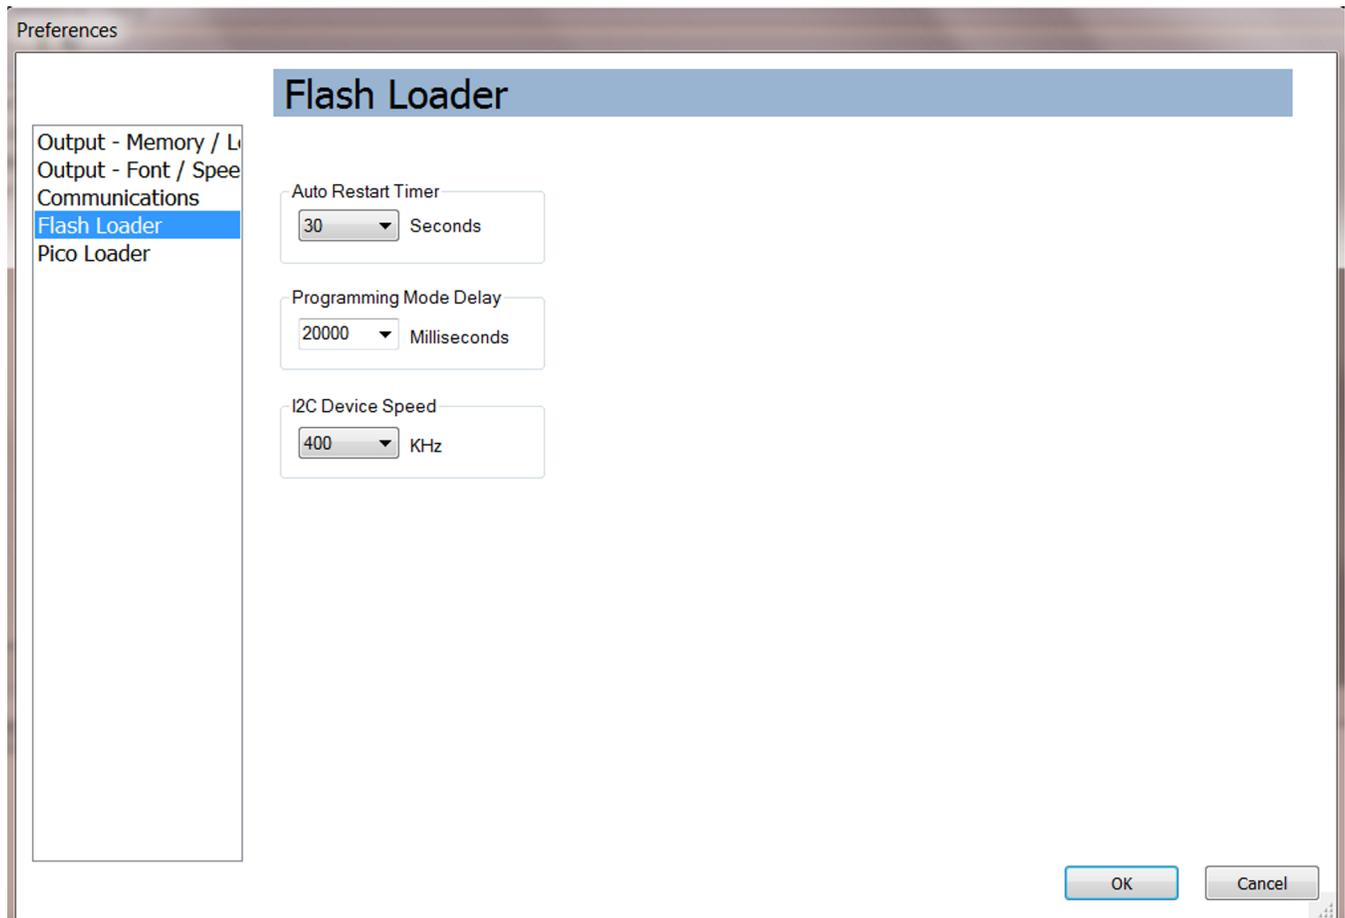

图 10. Flash Loader Options
1. In the menu bar of the DLP Composer GUI, navigate to *Edit* → *Preferences* → *Flash Loader* as 图 10 shows.